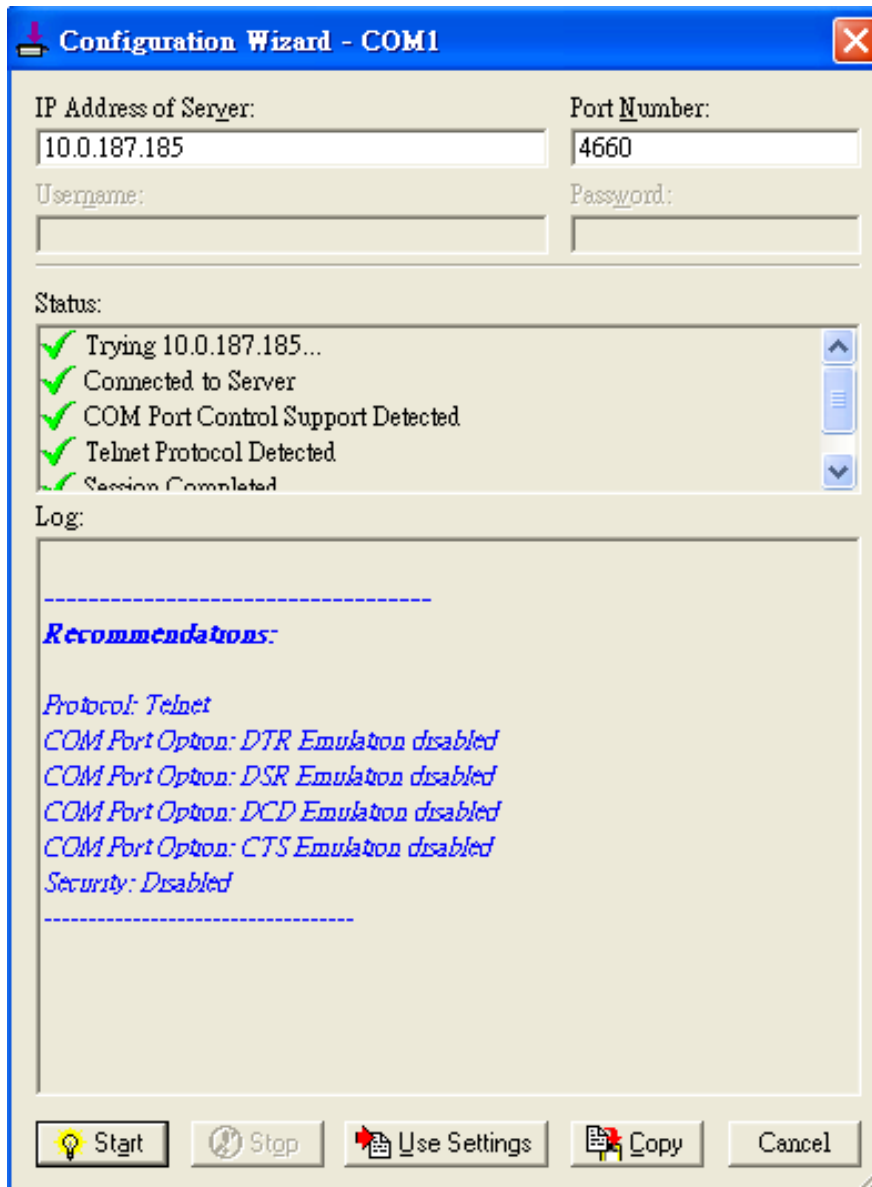

Figure 6.10 Auto Configure (formerly Configuration Wizard) Window for COM 1
5. To test the Virtual COM connection, you can click the **Auto Conigure...** button and then click the **Start** button in the pop up window as shown in Figure 6.10. If the test passes, all checks under the **Status** text box should be green. In this **Configuration Wizard** window, you can change the **IP Address** of Server, **Port Number**, **Username** (if **Use Credential** option is enabled), and **Password** (if **Use Credential** option is enabled). To apply the changes in the Configuration Wizard window to the Serial/IP Control Panel, please click on **Use Settings** button at the bottom of the window in Figure 6.10. You can also click on **Copy** button to copy the results to the PC system clipboard.